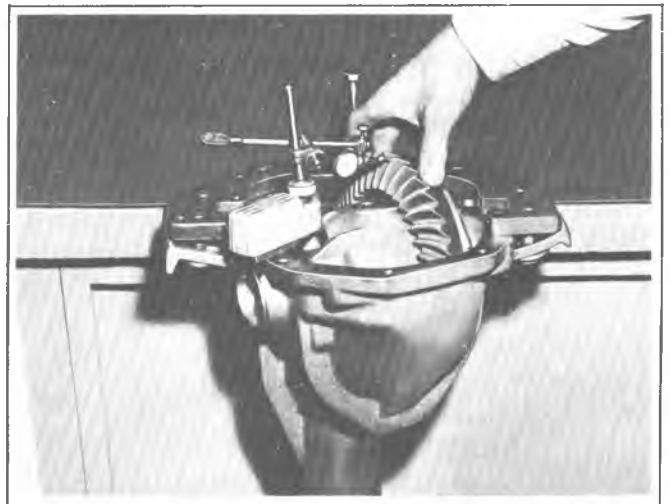

Fig. 13C--Checking Backlash
17. Mount a dial indicator on the carrier and check backlash between the ring gear and pinion, as shown in figure 13C. Backlash should be within the range of .003" to .010" with a reading of .005" to .008" preferred. Check reading at four equally spaced positions around the ring gear. Variation in reading should not exceed .003".